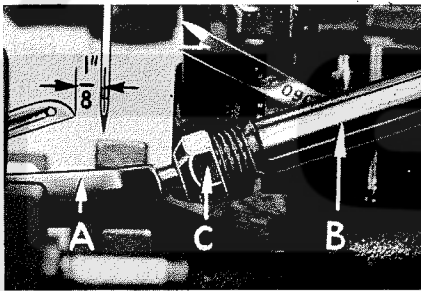
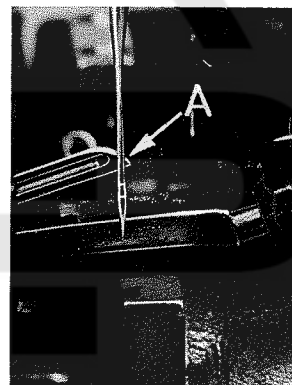

Fig. 5
Fig. 7
Insert the 503 stitch lower looper (A, Fig. 5) into bar (B). With lower looper at left end of its stroke set looper point $1/8$ inch from center of needle (Fig. 5) using looper gauge No. 21225- $1/8$. Do not have lower looper deflecting needle. Do not lock looper nut (C) because the looper point will have to be set to the needle scarf after the rear needle guard has been assembled and positioned. (See paragraph under "Final Setting of Lower Looper.")
Now finish lower looper adjustment. As lower looper moves to the right its point should be set into the needle scarf (A, Fig. 7) until the needle springs forward from the rear needle guard surface another .002 to .004 inch. This setting is obtained by rocking the looper forward or backward around its shank. Recheck the $1/8$ inch looper gauge setting and tighten nut (C, Fig. 5).